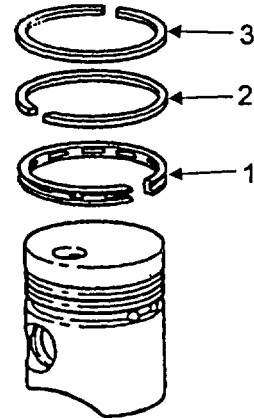

FIGURE 5-44. INSTALL PISTON RINGS
c. Install oil control ring (Figure 5-44, Item 1), cast iron compression ring (2) and chrome compression ring (3) in that order. Be careful not to strain rings by opening them more than necessary during installation.